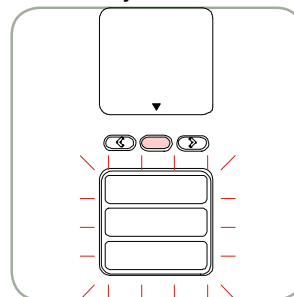

Fig. 15 General selection screen
- Press the Enter key to go to the general selection screen (fig.15).